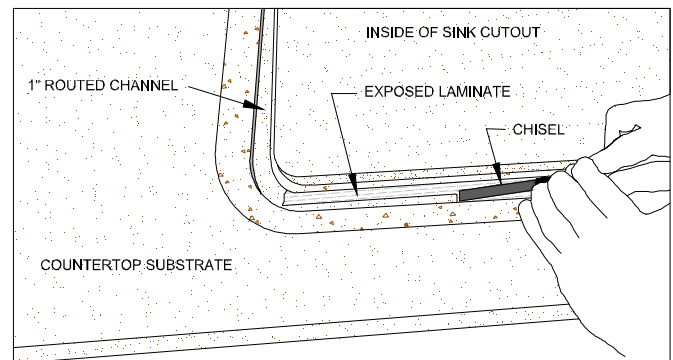

Figure 10C
- Keep chisel flat, beveled side up, so as not to damage laminate. (FIG. 10C)